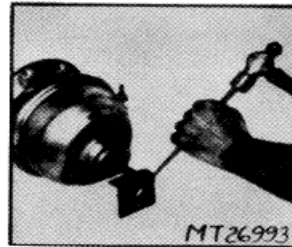

Fig. 15
2. Use a 3.175 mm (1/8") diameter punch. Support the release bolt and knock out lock pin in release bolt as illustrated in Fig. 15. Then remove the slotted release nut.